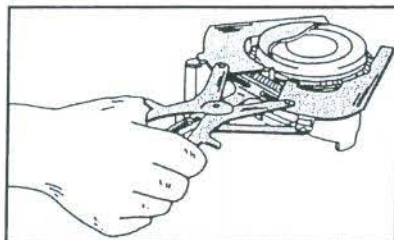

Fig. 1.33 - Removal or installation of rings with a pair of piston ring pliers. expand rings more than necessary to prevent breakage.
- Remove the piston rings one after the other from the pistons, using a piston ring pliers if possible (Fig. 1.33). If the rings are to be re-used, mark them in accordance with their pistons and position.